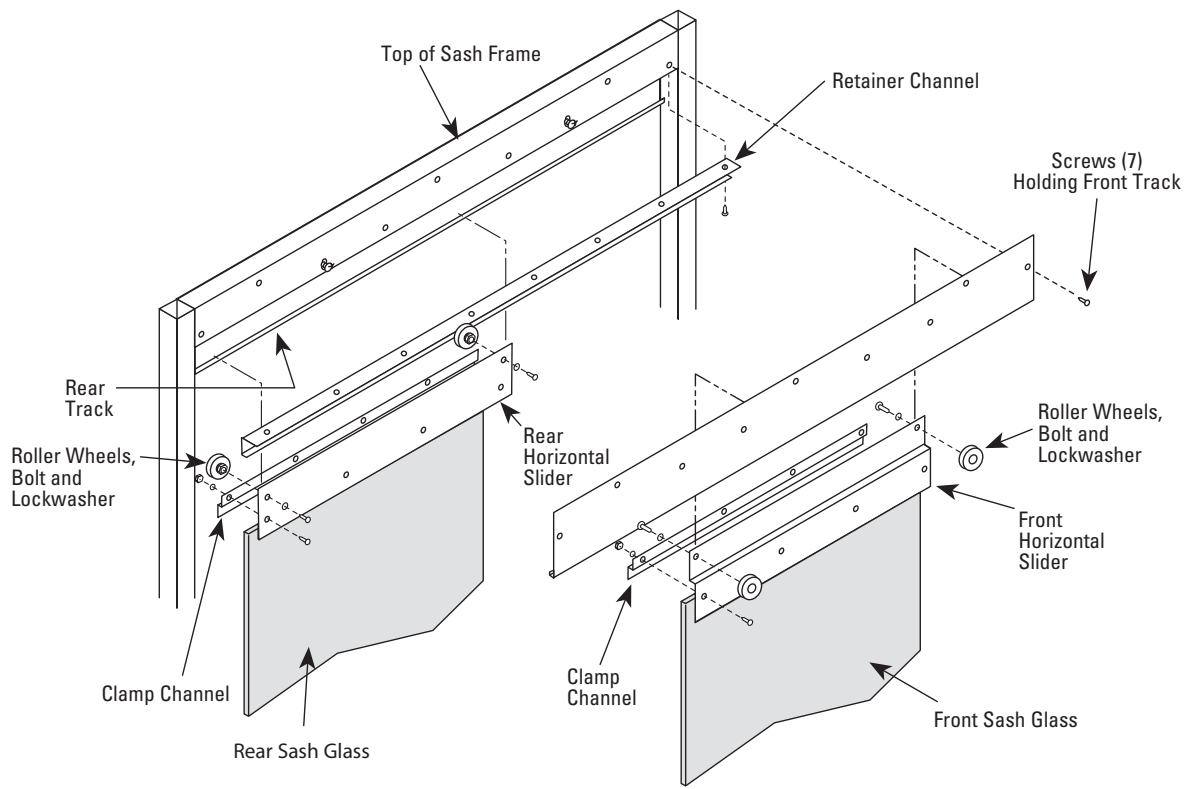

Figure 26
10. Unclamp the sash glass pane from the horizontal sliders by removing the four bolts holding the clamp channel in place, see Figure 26.